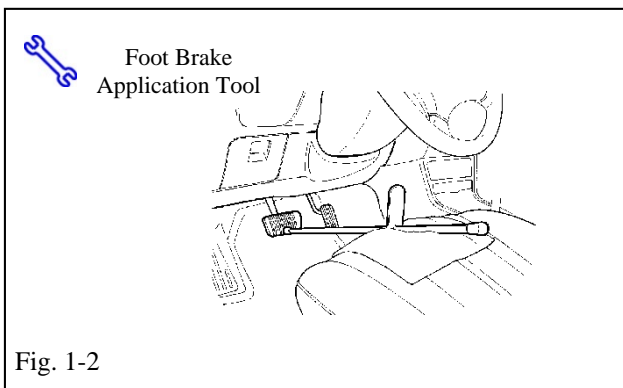

Fig. 1-2
- (c) Add seat protection (blanket) and apply the foot brake using a foot brake application tool as needed (Fig. 1-2).